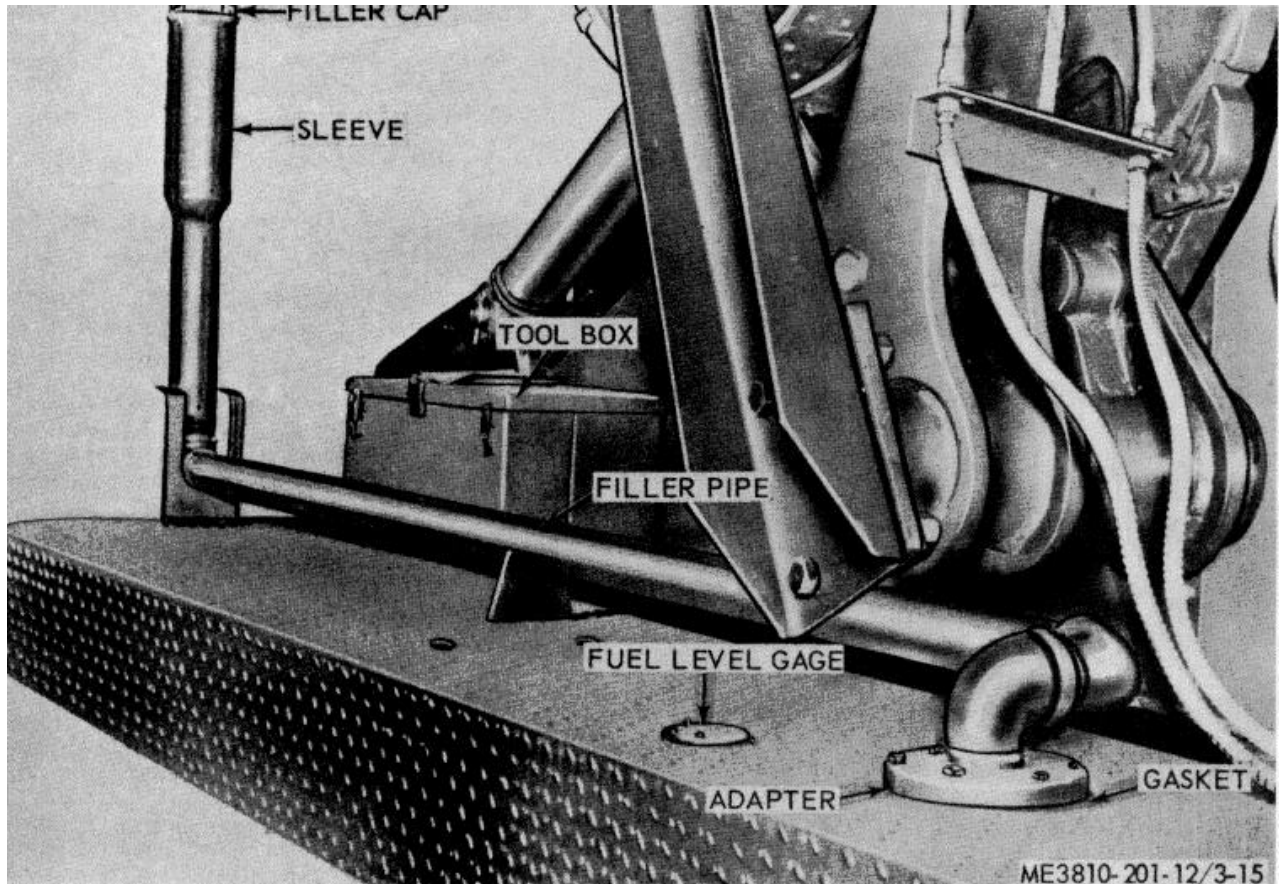

Figure 3-15. Filler cap and filter service, model 855BG3.
(1) Remove filler cap (fig. 3-15) and lift filter screen from sleeve. Cover sleeve opening to prevent dirt entering tank.
(2) Clean filter screen in an approved cleaning solvent and dry thoroughly with compressed air. Be sure all foreign material is out of filter screen.
(3) Remove covering from sleeve, install filter screen in sleeve, then install filler cap.